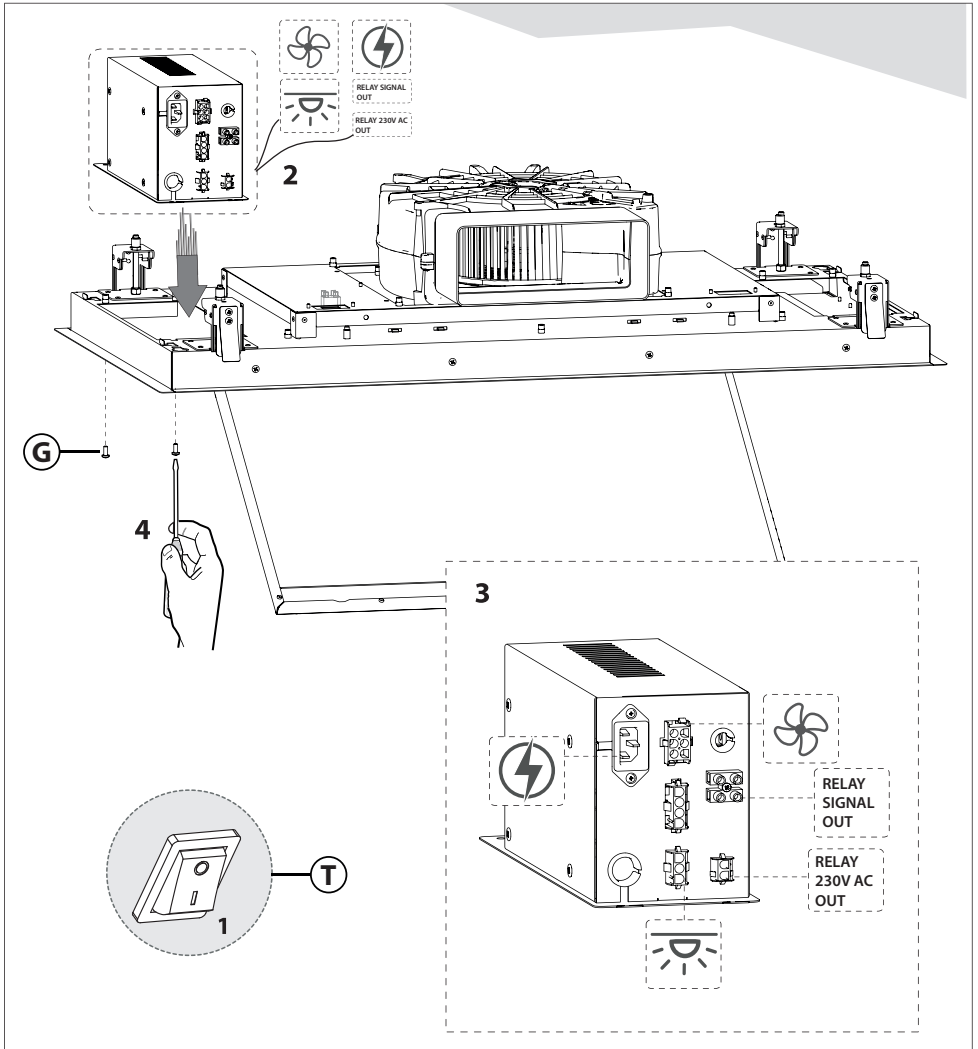

Fig.11
- Turn the switch T to the OFF position and disconnect all connections (Fig.11).
- Check that the switch T of the electronic box is in the OFF position and connect the connectors (power supply, light, control, motor); then secure the electronic box as shown in figure 11.